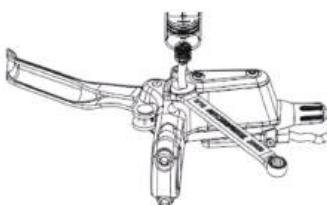

Figure 5-3: 8mm open end spanner to loosen/tighten the main body of the caliper into the nozzle screws.
- ④ Use the 8mm open-end wrench to tighten the oil inlet nozzle of the master cylinder (turn clockwise about 1.5 turns, as shown in Figure 5-3).